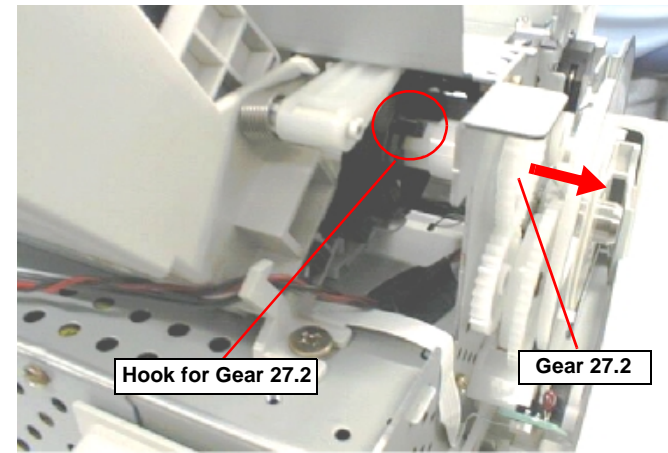

Figure 4-20. Releasing hook for the Gear 27.
- 4) Release the hook fixing the Gear 27.2 to the ASF LD Shaft on the left of the ASF Assembly (Viewed front) and slide it left little carefully. Refer to Figure 4-20.